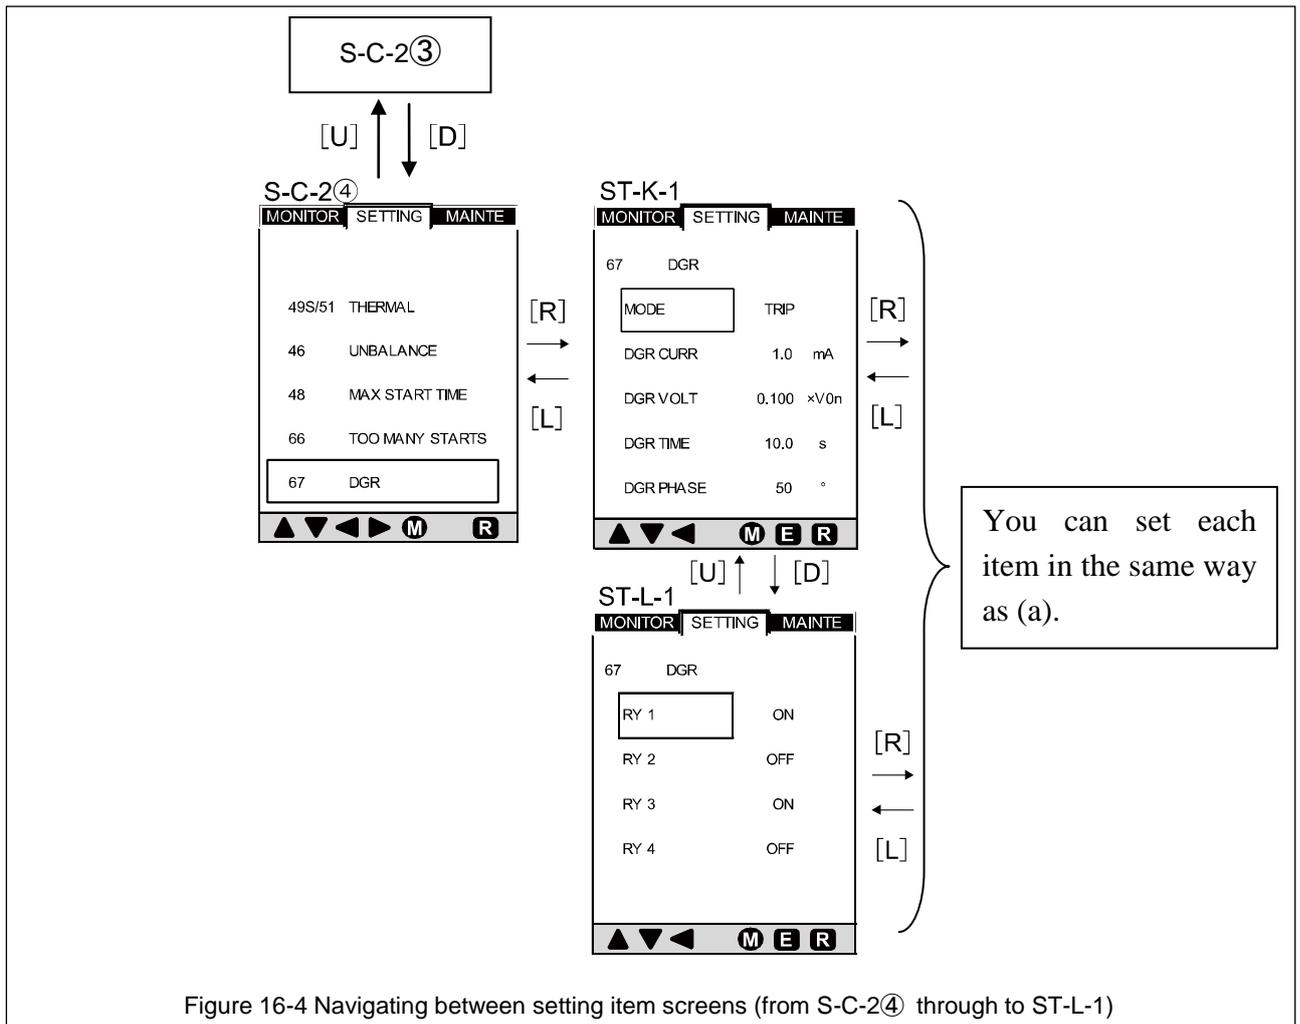

Figure 16-4 Navigating between setting item screens (from S-C-2④ through to ST-L-1)
Figure 16-4 shows how to navigate between setting item screens (from S-C-2④ through to ST-L-1). See Table 11-4 for items that are actually displayed on the screen.